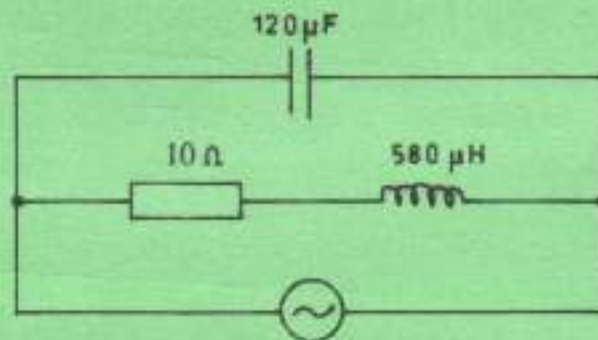

Fig. 2
- (c) Figure 2 shows a tuned circuit. Determine the: